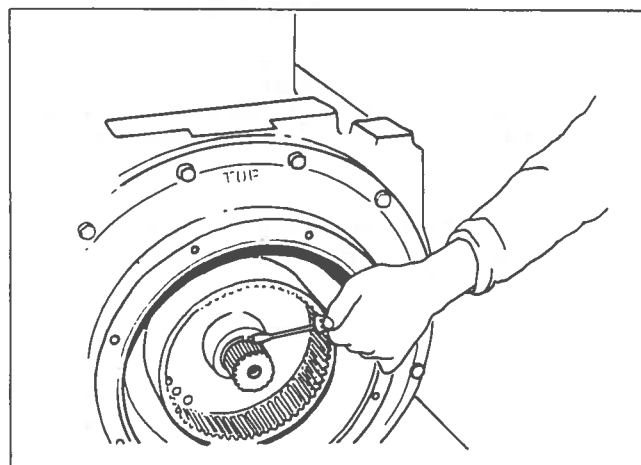

Fig. 5. Placement of snap ring on stub shaft.
11. Install driving drum on splined stub shaft. Install snap ring in place making sure ring is seated in groove. See figure 5.